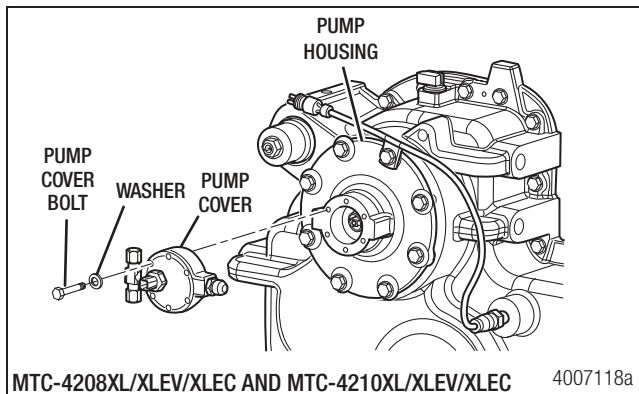

Figure 7.46
- Install the pump cover washers and bolts. Figure 7.46.